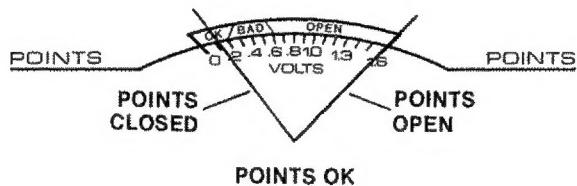

FIGURE 16
5. TURN THE IGNITION KEY ON. If the meter reads full scale (right), the points are OPEN as shown in Figure 16. Crank the engine a fraction of a revolution at a time until the meter reads in the left hand area of the scale, as shown in Figure 16. The points are now closed.